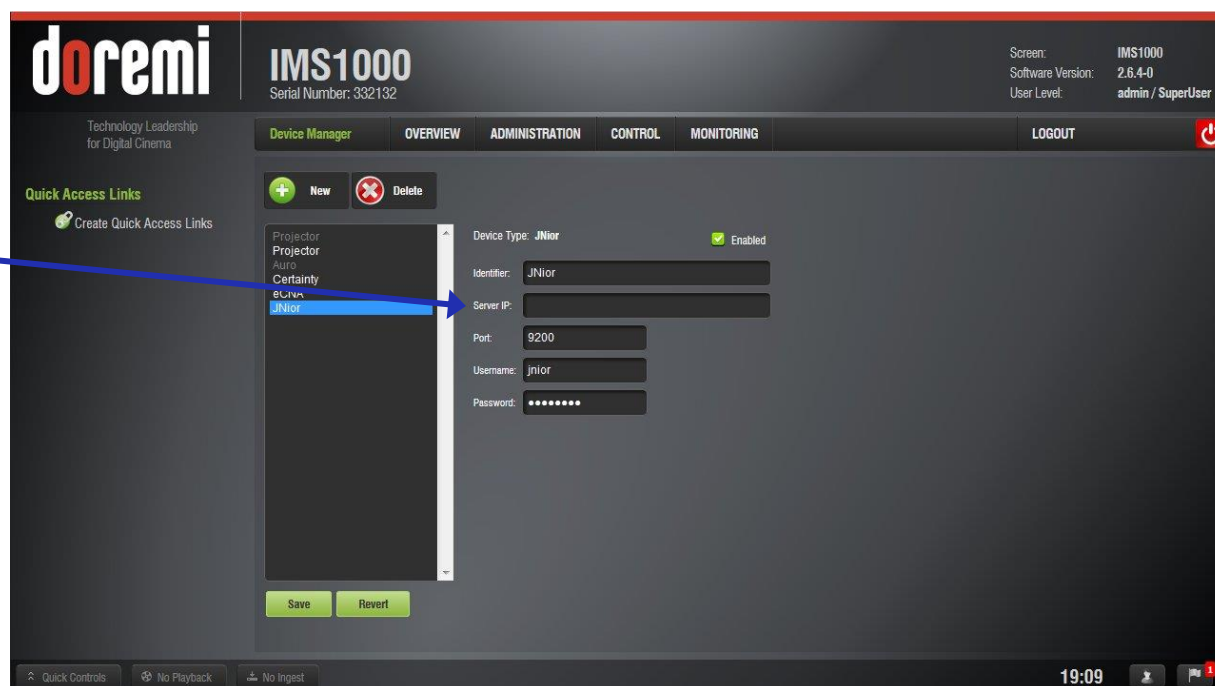

Figure 131: JNior Added
- Input the JNior Server IP address in the appropriate field (Figure 131).